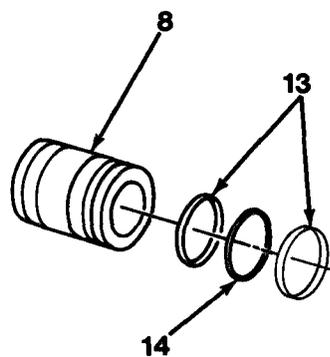

Figure 13-6
5. Install O-ring (14) and two back-up rings (13) in piston (8, Figure 13-6).